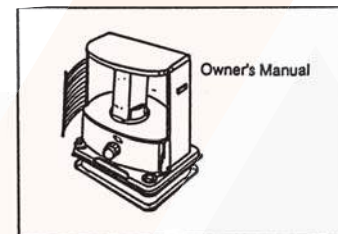

Fig. 2
1. REMOVE THE HEATER AND ALL PACKING MATERIALS FROM THE BOX.(Fig. 2)